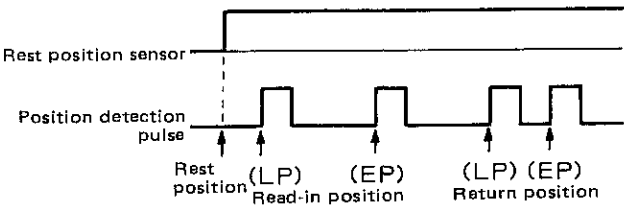

Figure 11-1
Performed by using SW504, LED505 and a gear drum. SW504 is the sensor which detects that the tonearm is at the rest position. LED505 is the sensor which detects that the tonearm is at the lead-in or return position. The outputs from these sensors are shown in Figure 11-1, which are applied to pin (29) (R13) and pin (28) (R12) of the microcomputer.